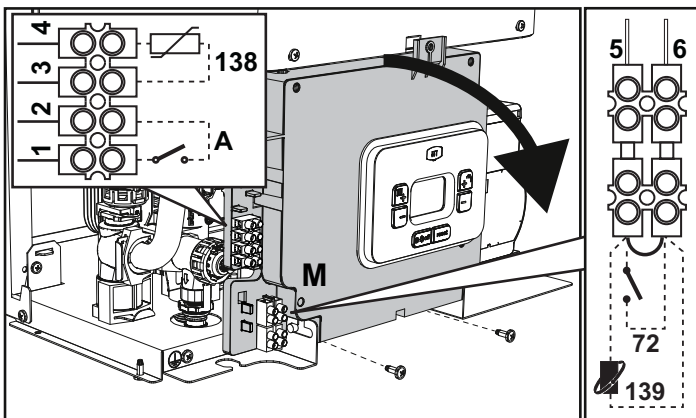
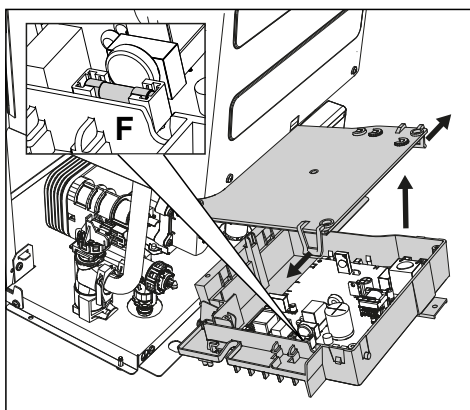

fig. 18
fig. 19
Remove the front panel (*** 'Opening the front panel' on page 285 ***) to access the terminal block (M) and fuse (F) by proceeding as follows (fig. 18 and fig. 19). **The terminals indicated in fig. 18 must be with voltage-free contacts (not 230V).** The arrangement of the terminals for the various connections is also given in the wiring diagram in fig. 39.
ON/OFF (A fig. 19) configuration